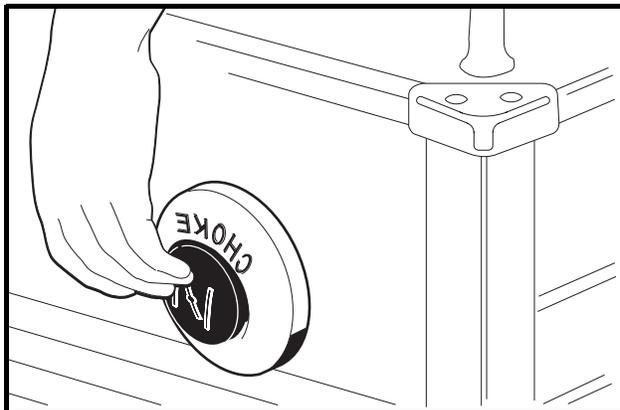

Figure 14 Button Choke
- **Turf 1 and Carryall 1:** Press the choke cover. Hold choke cover in during start-up and release it after the engine starts and runs smoothly (**Figure 14**).